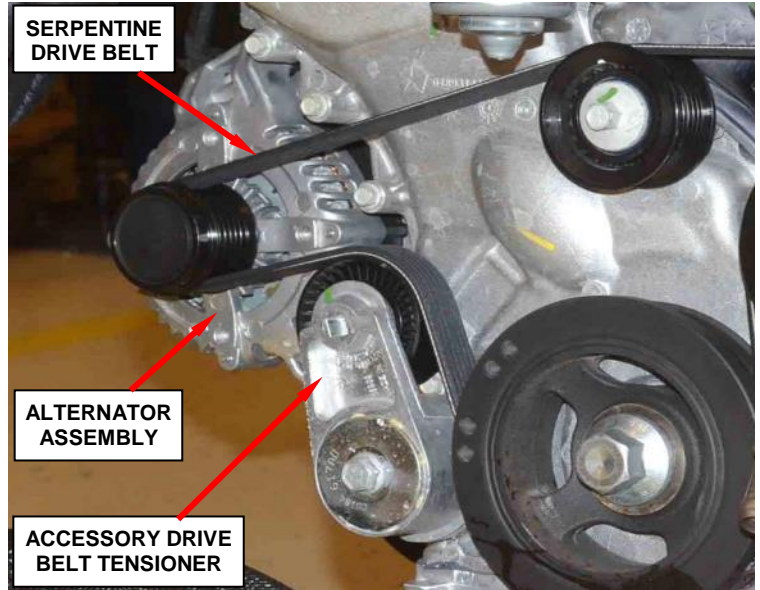

Figure 1 – Accessory Drive Belt Tensioner
2. Rotate the accessory drive belt tensioner counterclockwise until it contacts its stop and remove the accessory drive belt, then slowly rotate the tensioner into the free-arm position (Figure 1).